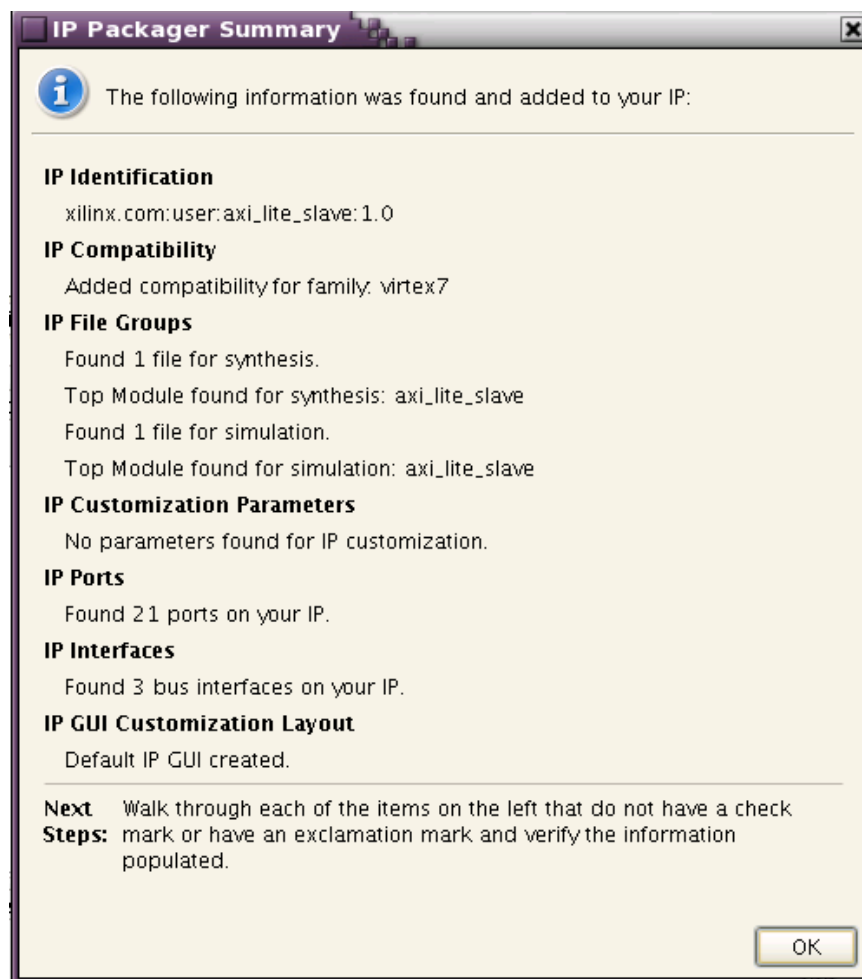

Figure 8: IP Packager Summary Window for AXI4Lite Slave
5. When the wizard has finished processing, the IP Packager Summary window appears. This window details the number of interfaces, ports and parameters imported from the HDL. Click **OK**. Figure 8 shows the results from packaging the AXI4-Lite Slave IP. Each IP will have different values for each field.